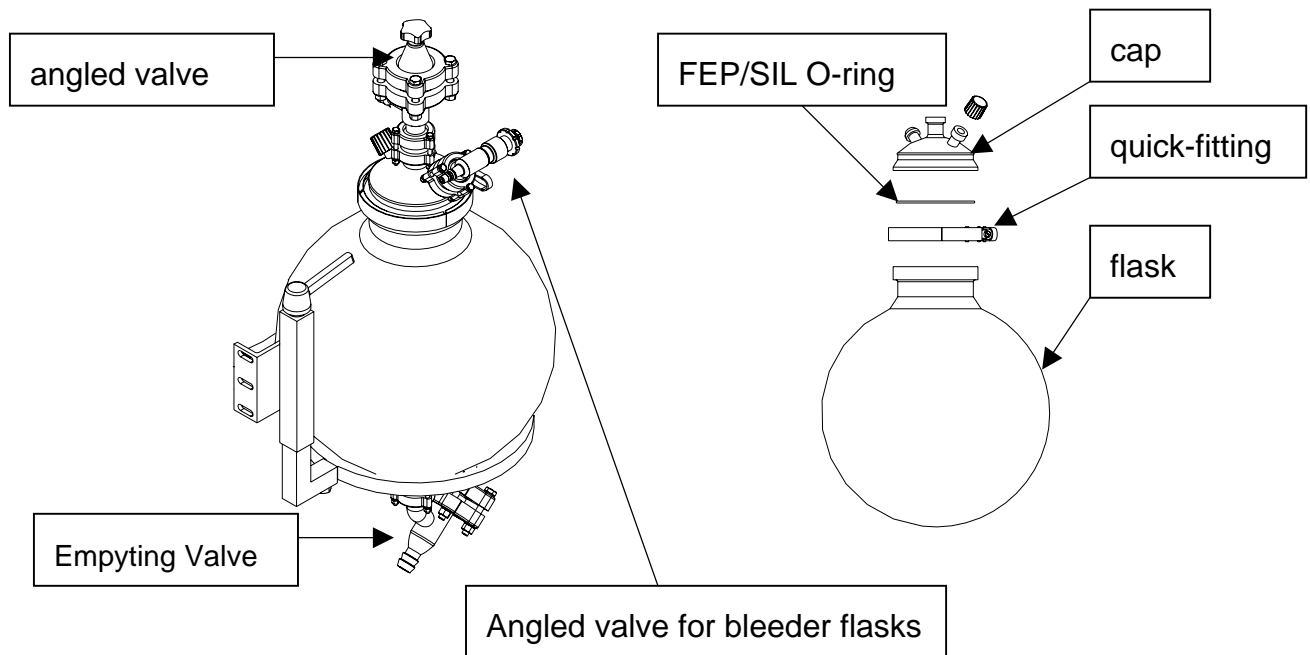

Figure 26.
(Refer to figure 26)
*(Refer to figure 26)*